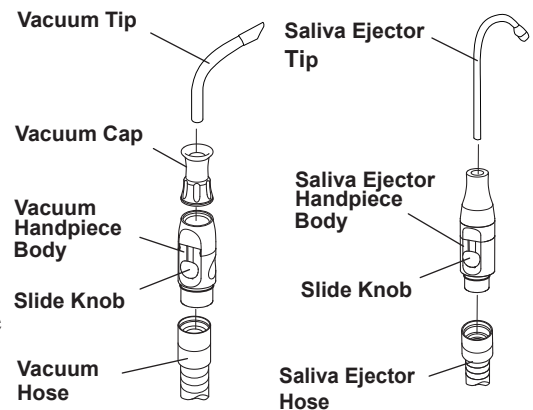

Fig.6-2 Vacuum Handpiece and Saliva Ejector
1. Vacuum Handpiece and Saliva Ejector (Fig.6-2)